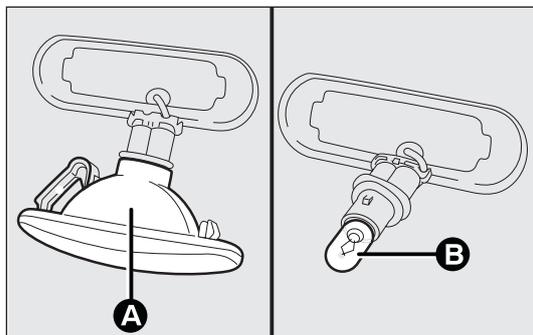

fig. 148
- remove the bulb B-fig. 148 and replace it;